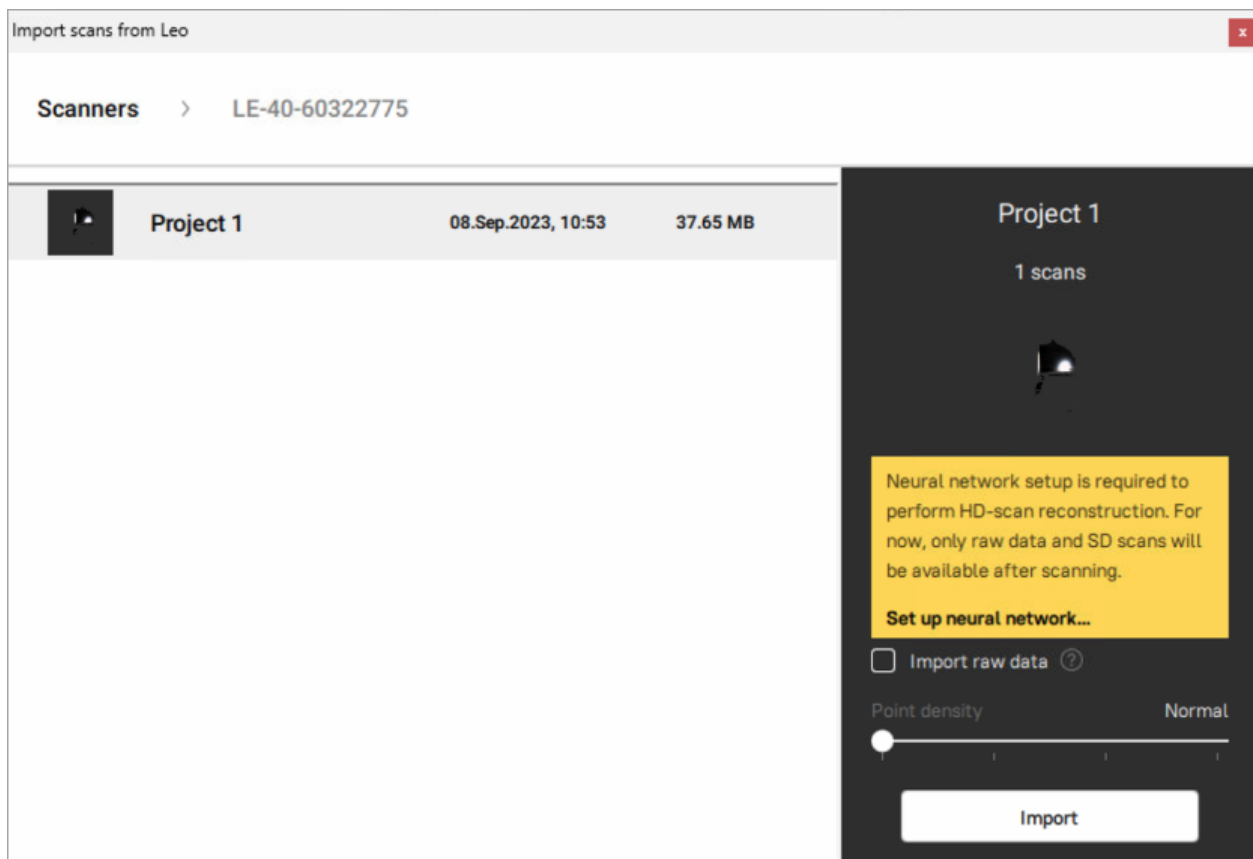

Figure 100: Dialog for selecting Leo projects to import.
5. Then using either **LMB** or **↑** and **↓** select the project that you want to load (Figure 100)